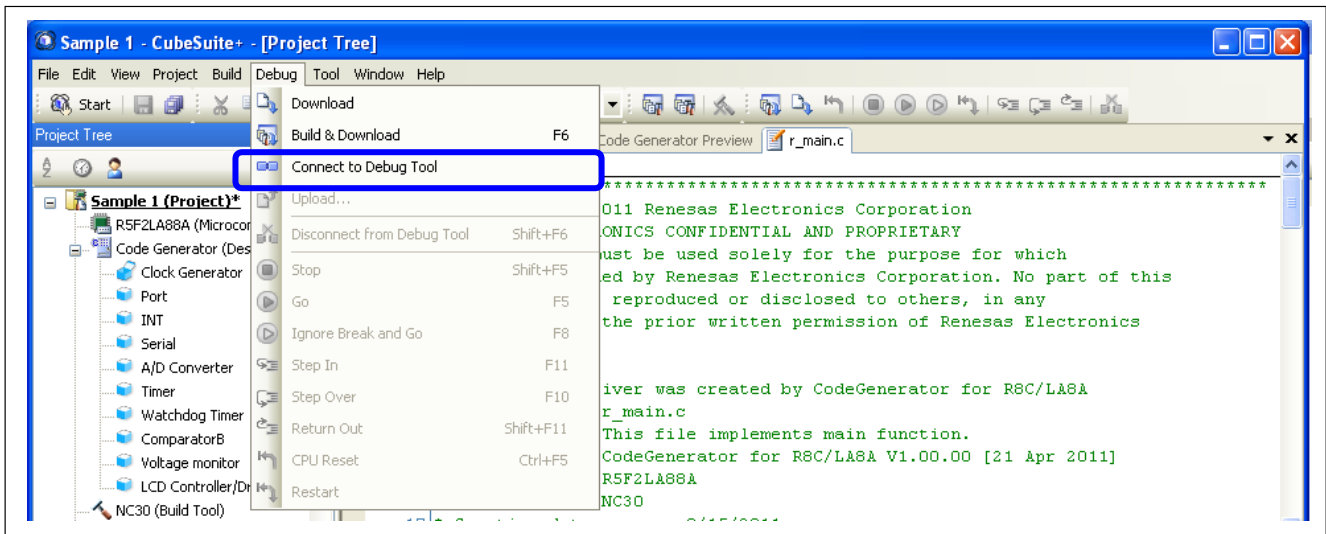

Figure 2 Connect to Debug Tool option
1. User establishes connection with a debug tool by clicking on the “Connect to Debug Tool” option in the [Debug] menu. Figure 2 shows how to connect to debug tool.